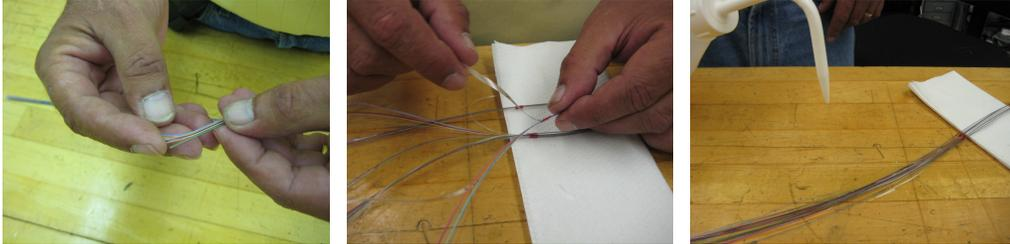

Figure 9 – Removing the matrix material from the AccuRibbons®.
5.2 Flare the end of the AccuRibbons® to begin breaking down the matrix and peel each individual fiber back to the red tape. Remove the loose matrix as necessary during the fiber peel back process. Place the AccuRibbons® on a flat surface and place the taped end on a towel to prevent the alcohol from wicking past the tape. Apply isopropyl alcohol on the exposed fibers to soften any remaining matrix material (Figure 9).